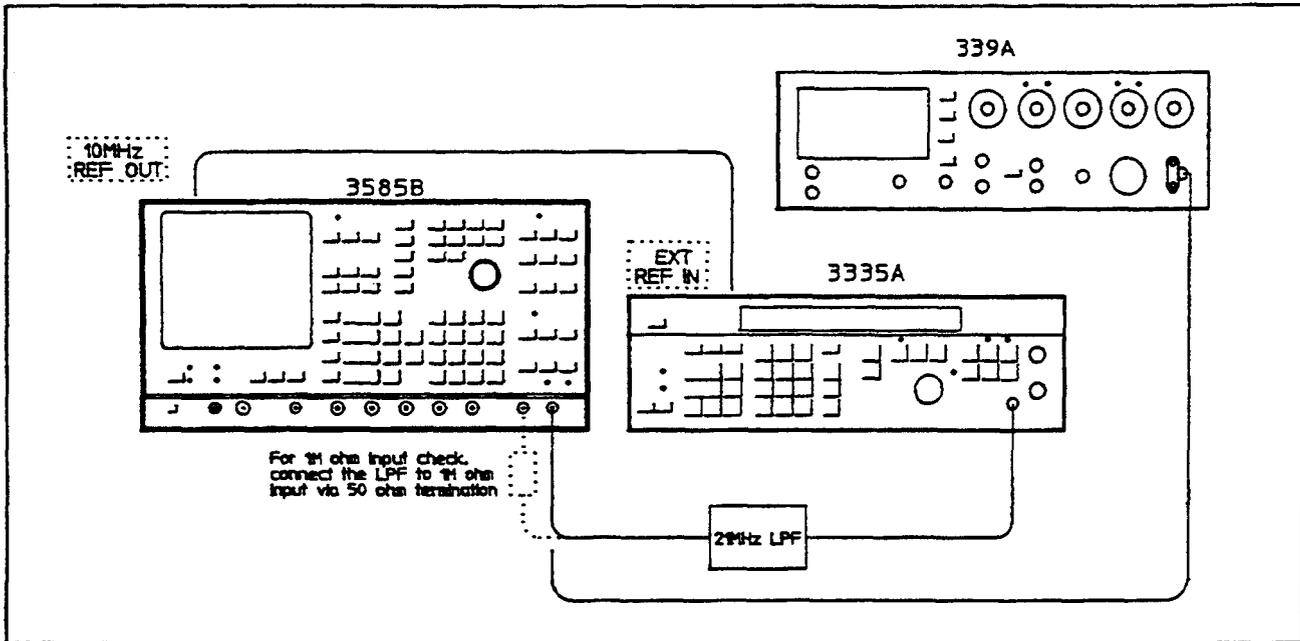

Figure 4-2.
- a. Connect the 3335A's 50Ω output to the 21 MHz LPF. Connect the LPF's output to the 3585B's 50Ω input. See Figure 4-2.